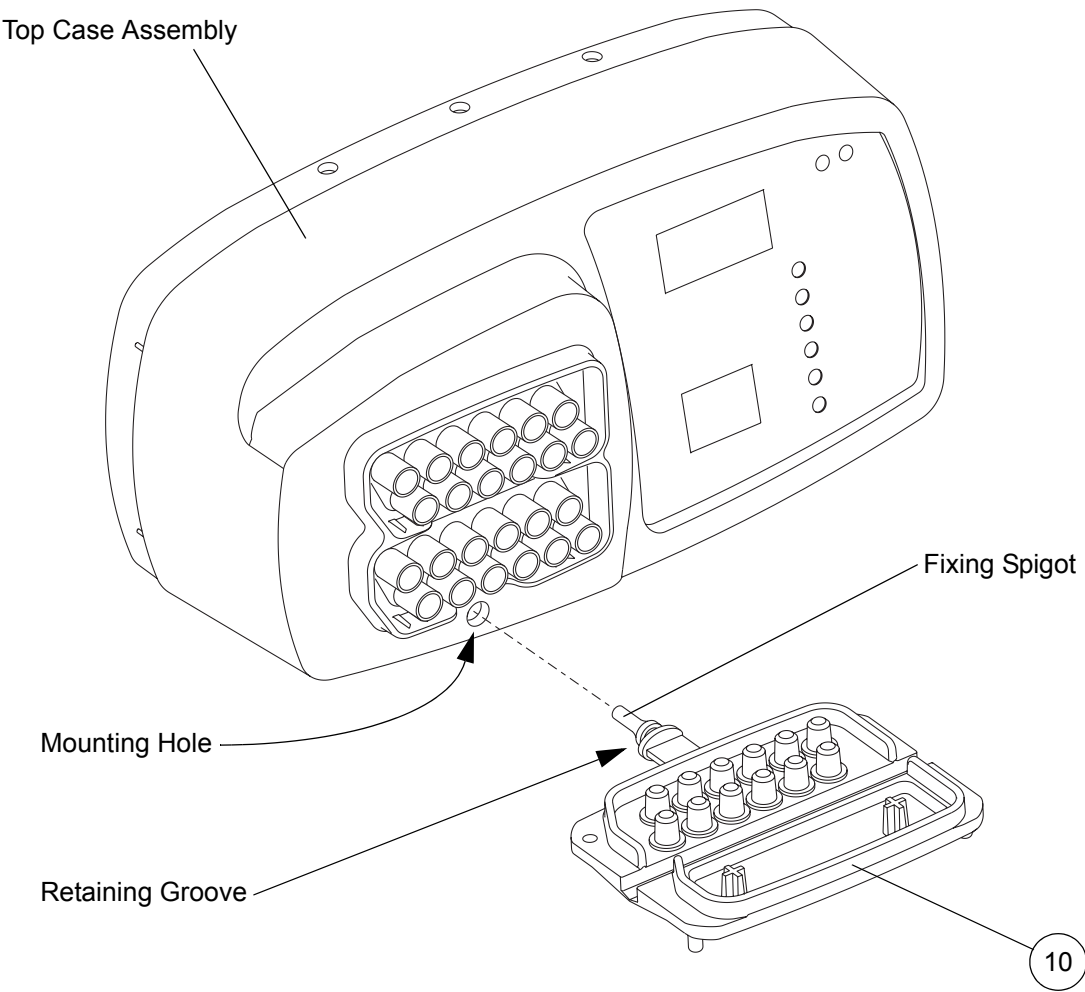

Figure 34 - Replacing the Rubber Bung
- 28.2 Pull the fixing spigot on the end of the rubber bung (Fig 34, Item 10) out of the mounting hole in the top case assembly.
- 29.1 Put the end of the fixing spigot on the rubber bung (Fig 34, Item 10) into the mounting hole in the top case assembly.
Note: *Make sure the orientation of the rubber bung is correct (refer to Figure 34).*